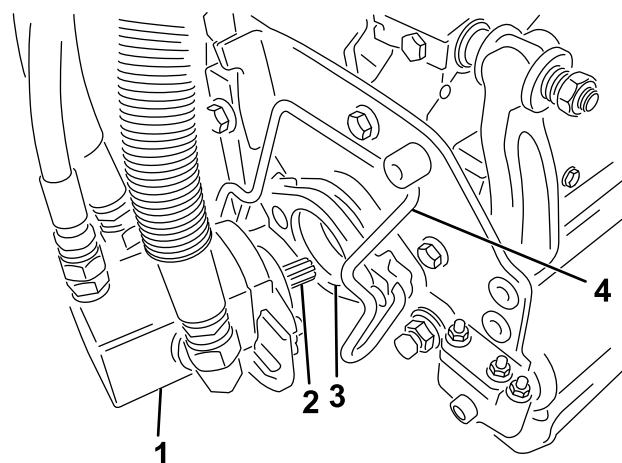

Figure 56
5. Coat the spline shaft of the cutting unit motor with clean grease (Figure 56).
6. Insert the motor into the left side of the cutting unit (as viewed from the operator's position) and pull the motor retaining bar on the cutting unit toward the motor until you hear a click from both sides of the motor (Figure 56).